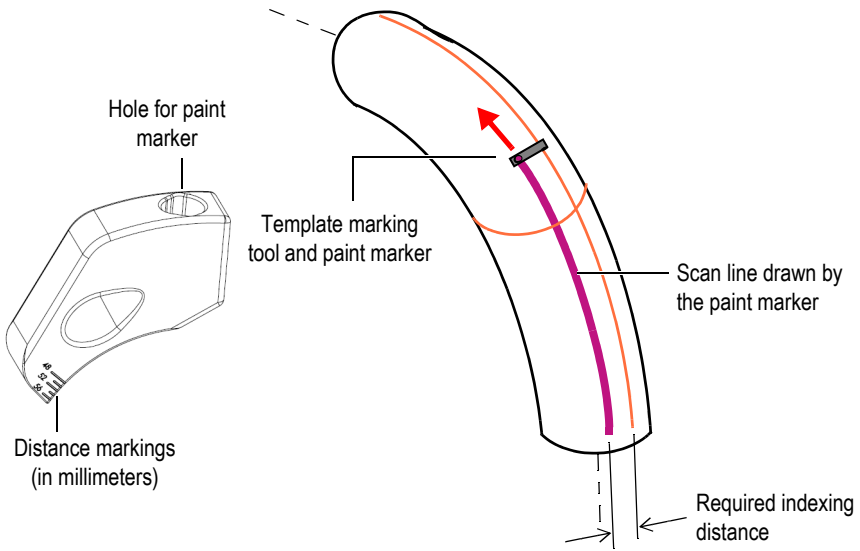

Figure 3-7 Drawing the scan lines on an elbow
4. Insert a paint marker (pen) into the hole in the template marking tool, then use the tool's markings as a guide to follow the first scan line and draw your next scan line at the required index distance (see Figure 3-7 on page 32). Draw the remainder of the scan lines this way around the circumference of the part.